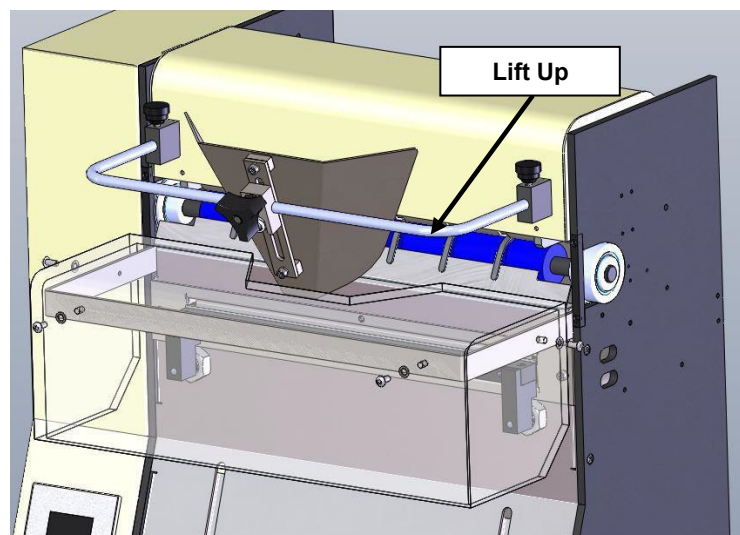
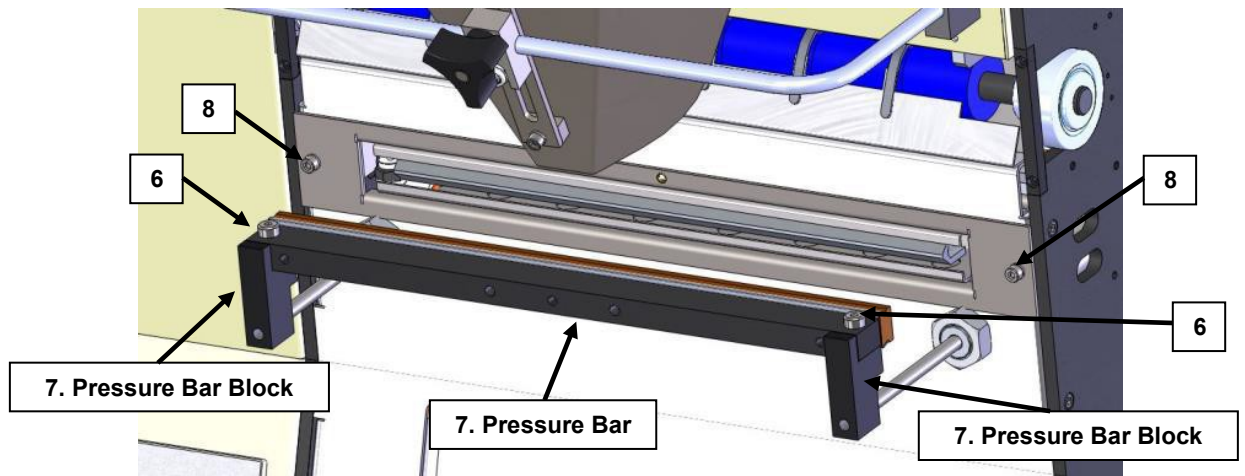

Figure 4-2
Figure 4-3
Refer to Figure 4-2, Figure 4-3, and the Heater Bar Assembly drawing in Section 5.5 with the following instructions. Call APPI (800) 754-4403 and ask for Service if additional help is needed.
4. Remove four screws from the guard assembly and remove the Lexan guard, see Figure 4-2.
6. Remove the two shoulder bolts from the Pressure Bar (Figure 4-3).
7. Remove the Pressure Bar and turn down the black Pressure Bar Blocks (Figure 4-3).
8. Remove the two screws located on the right and left side of the Seal Bar which hold the Seal Assembly mechanism in place (Figure 4-3).